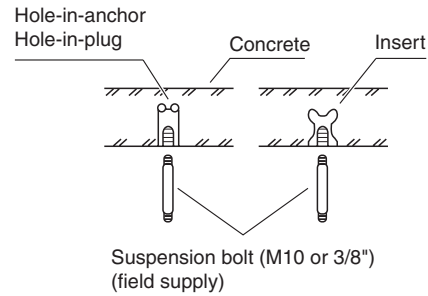

Fig. 1-119
- (1) Fix the suspension bolts securely in the ceiling using the method shown in the diagrams (Figs. 1-119 and 1-120), by attaching them to the ceiling support structure, or by any other method that ensures that the unit will be securely and safely suspended.